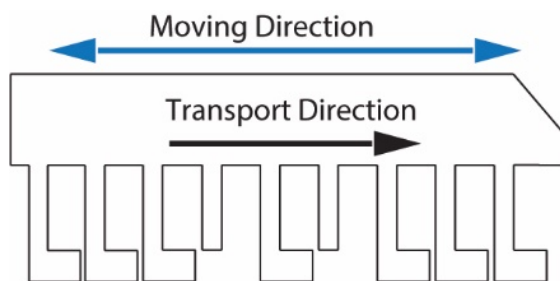

Figure 3: Conveying and moving direction of the code rake
- Mounting direction: The code rake must be installed as shown in Figure 3. The bevelled edge points in the conveying direction. The rakes can be moved forwards and backwards through the identifier decoder.